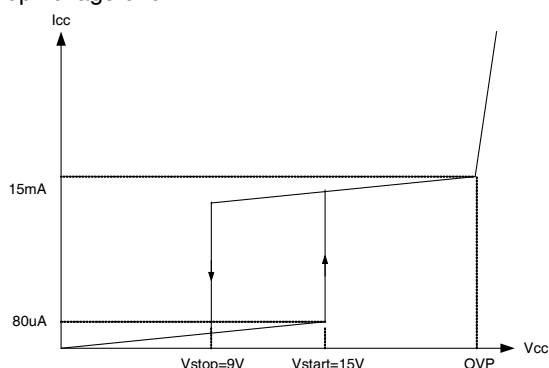

Figure 22. High Voltage Current Source
**1. Start up:** To guarantee stable operation of the control IC, FS8S0765RCB has UVLO circuit with 6V hysteresis band. Figure 22 shows the relation between the supply current ( $I_{CC}$ ) and the supply voltage ( $V_{CC}$ ). Before  $V_{CC}$  reaches 15V, the FPS consumes only startup current of 80mA, which is usually provided by the DC link through the start-up resistor. When  $V_{CC}$  reaches 15V, the FPS begins operation and the operating current increases to 15mA as shown. Once the control IC starts operation, it continues normal operation until  $V_{CC}$  goes below the stop voltage of 9V.